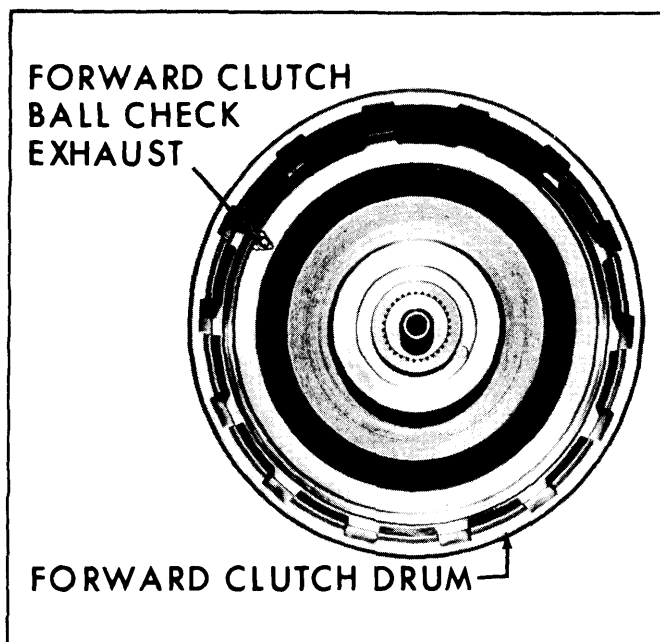

**Fig. 7-85—Installing Forward Clutch Piston**
2. Install the forward clutch piston assembly (with the aid of a feeler gauge or piece of .020" piano wire crimped into copper tubing). (Fig. 7-85)